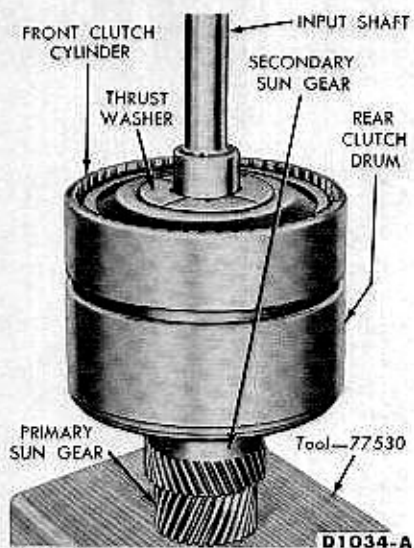

FIG. 6—Input Shaft, Clutches, and Primary Sun Gear
17. Install the clutch assemblies in the bench fixture (Fig. 6).